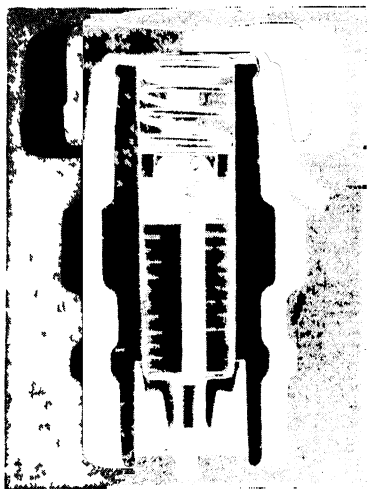

FIG 6-9 Internal view of autovalve arrester showing isolating and quenching gaps and valve elements (Courtesy Westinghouse Electric Corp.)
**Autovalve Arrester. Construction.** The autovalve arrester consists of a porous block which is the autovalve element connected in series with a spark gap. Both units are enclosed in a porcelain casing. Figure 6-9 shows the internal construction of a distribution-type autovalve